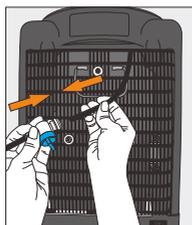

Figure 2
2. Installation should only be executed by properly trained personnel. The connection must be to the potable mains water supply and should be via a shut off valve (Figure 2). An anti-flood device should be fitted as close as possible to the mains connection point. In line with local regulations, a check or non-return valve must also be fitted prior to the equipment.